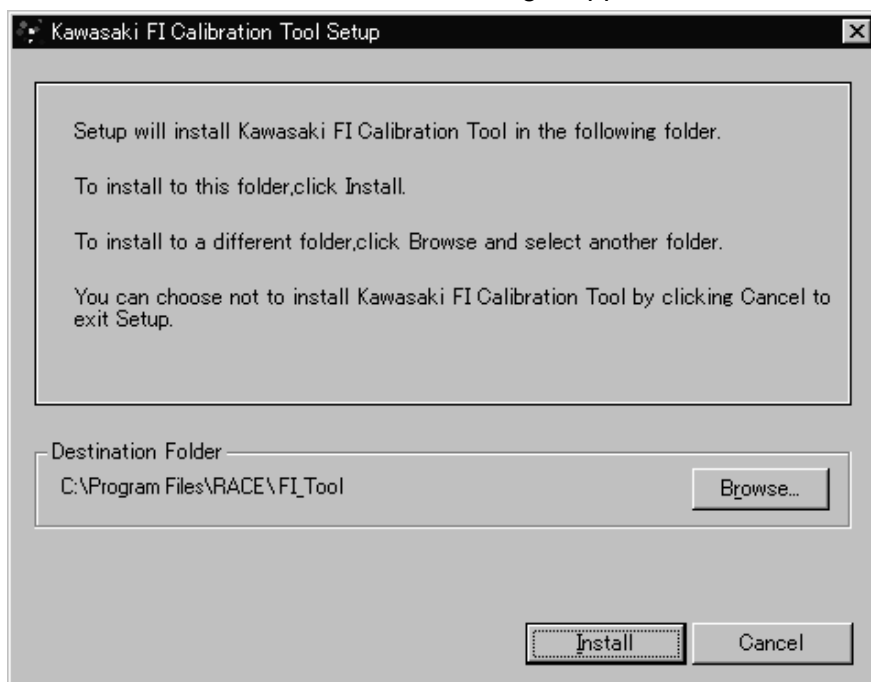

Fig. 7 Choosing Destination Folder
(10) The destination folder selection screen shown in Fig.7 appears.